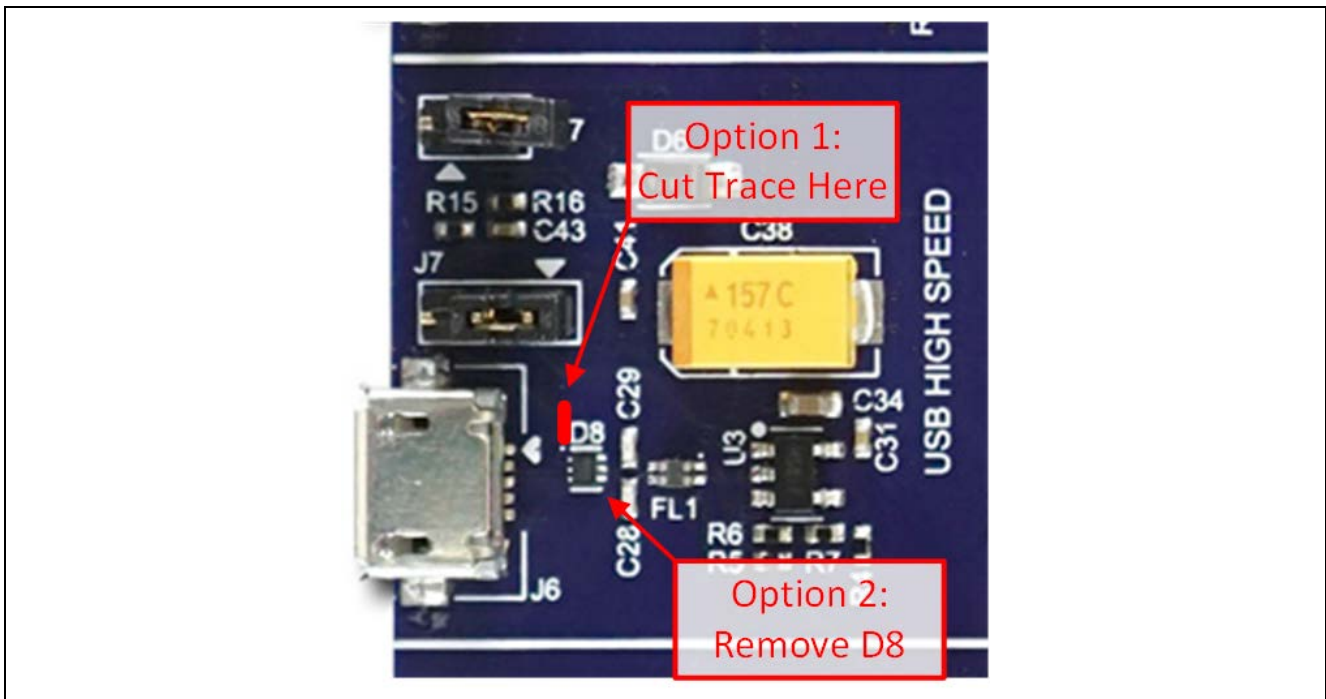

Figure 5. USB High Speed Rework Locations
1. (Recommended) Cut the +5V trace between D8 pin 6 and the rest of the USB High Speed +5V trace. Cut the trace at the location indicated in Figure 5. The trace is located next to the D8 reference designator on the top side of the circuit board.